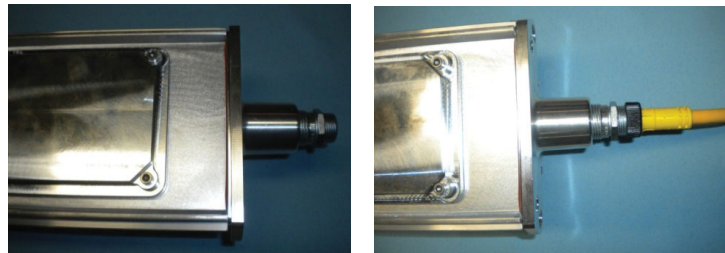

Figure 17
7. Disconnect the input and output leads of the old driver(s) (see Figure 17).
8. Remove the two (2) screws that secure the driver; remove the old driver.